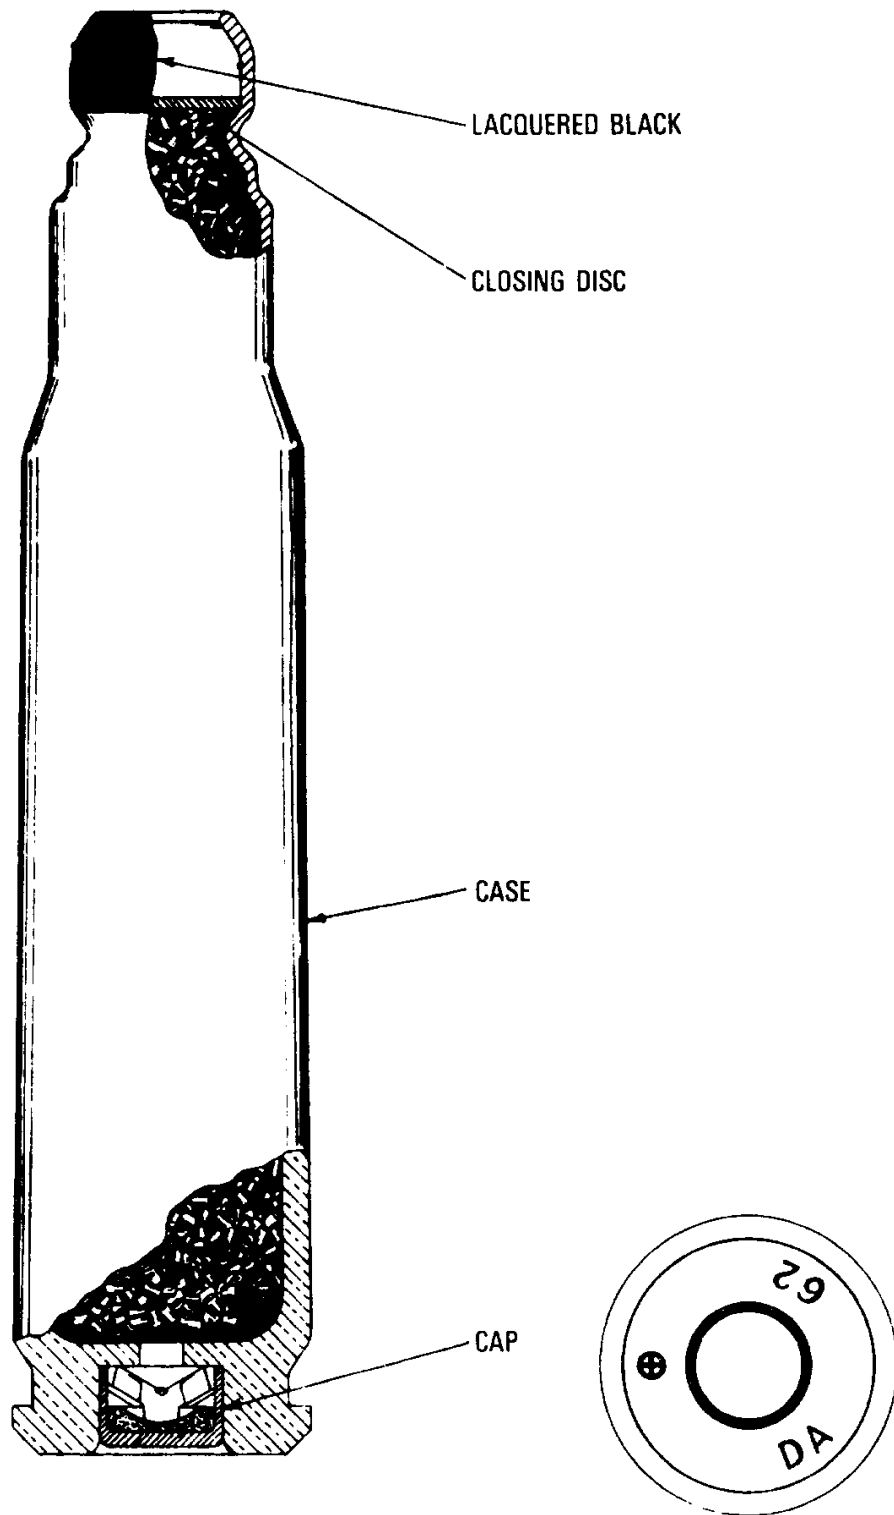
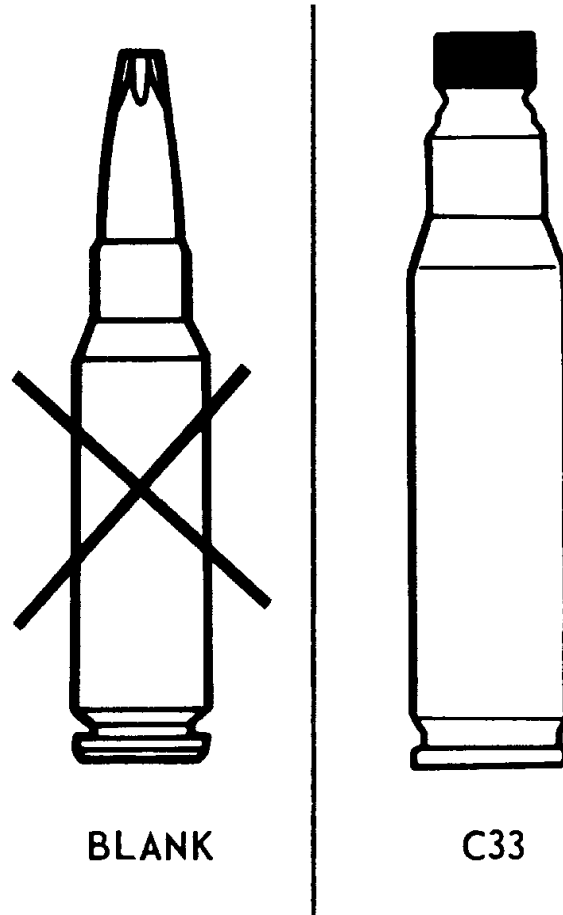

Figure 4-3 Cartridge, Grenade, C33
Figure 4-4 The 7.62 mm Blank Cartridge and the C33 Cartridge
2. Cartridge, Grenade C33. Grenade cartridges are non-bulleted cartridges containing a special charge which produces the pressure required to propel a rifle-launched grenade. The C33 Grenade Cartridge (see Figure 4-3) may be identified by the method of closure (a cone crimp over a deep-seated closing disc) and by a lacquered BLACK band approximately 1/4-inch wide around the mouth. These two features, which are also shown in Figure 4-4, distinguish rifle grenade cartridges from the ordinary blank cartridges which must NEVER be used in place of the C33 cartridges. The C33 cartridges are issued in seated boxes of ten and are normally issued at the same time as the adapters. The cartridge cannot be magazine fed because the blunt end of the cartridge tends to cause the round to jam just below the breach entrance. Grenade cartridges can be irreparably damaged by attempting to magazine feed them.